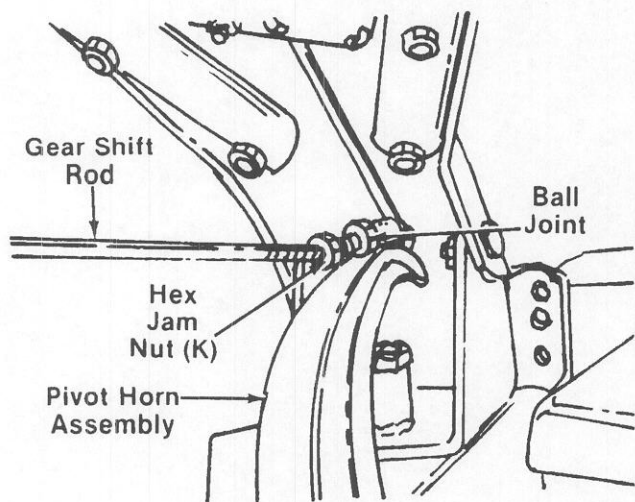

FIGURE 12.
3. Thread hex jam nut (K) on one end of gear shift rod. Then thread gear shift rod into ball joint on the top of pivot horn assembly 10 to 12 complete turns, approximately $\frac{1}{2}$ inch. See figure 12. Lock hex jam nut against ball joint.